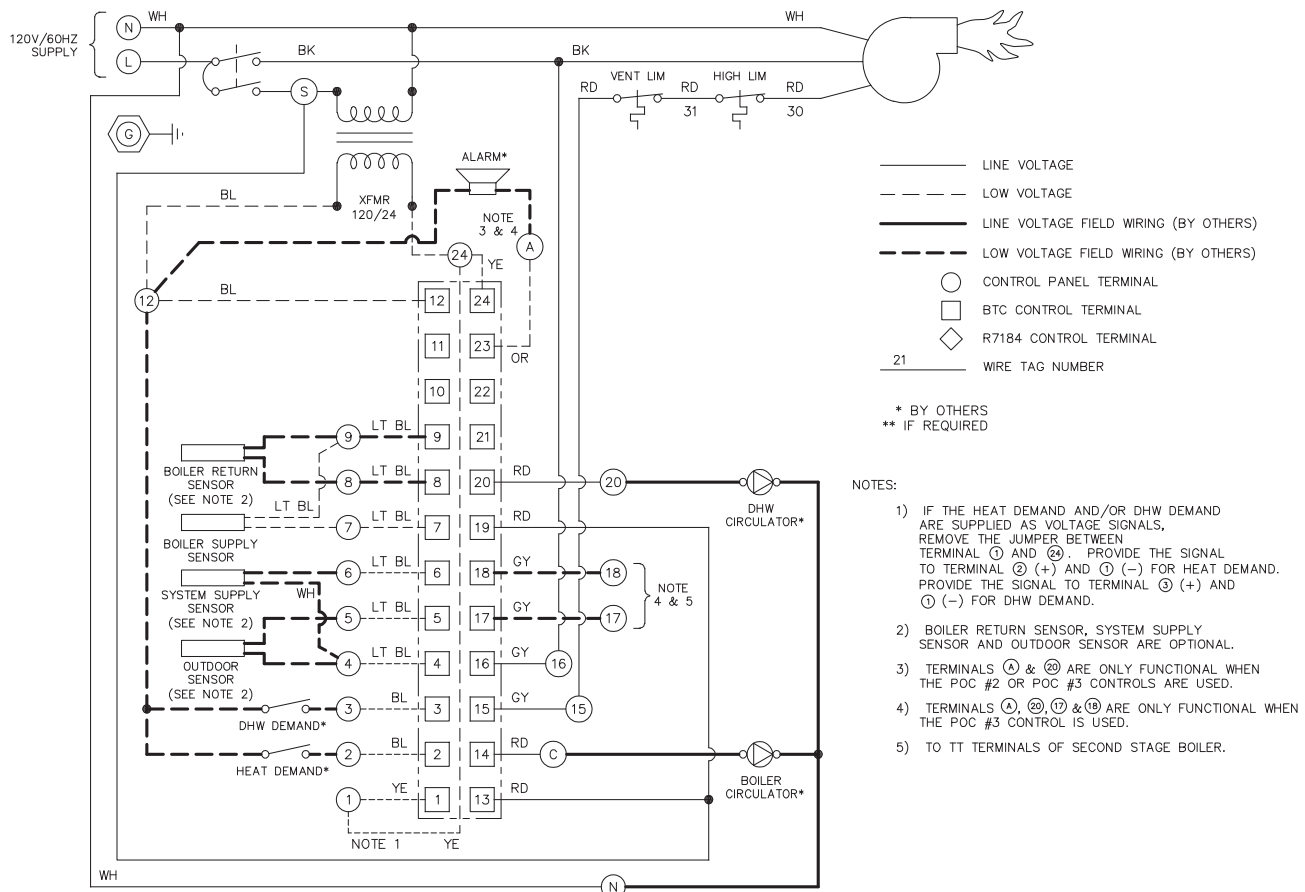

Figure 6.1: Boiler Wiring Diagram
3. Refer to the wiring diagram shown in Figure 6.1 for reference and further details.